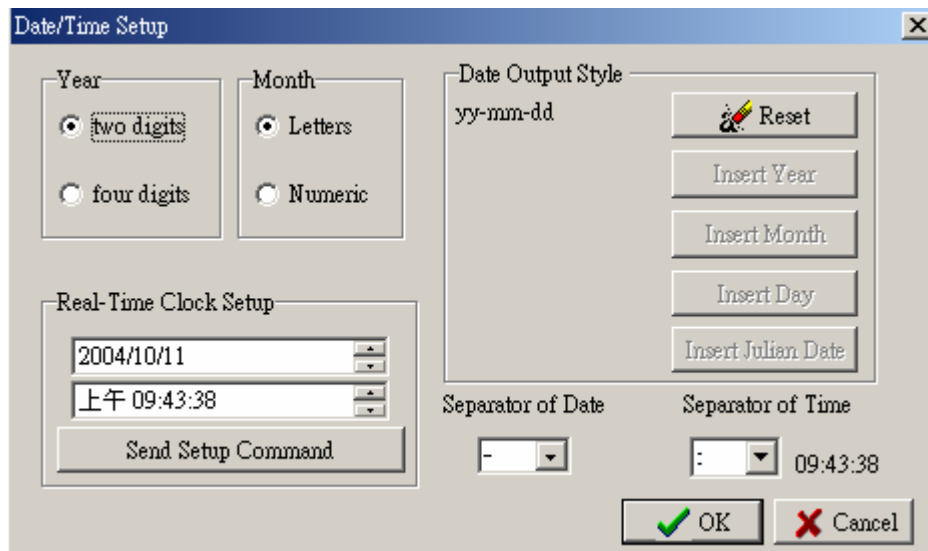

Fig.15.1
1. On the Advance menu, click Printer Date/Time Setup. (refer to the Fig.15.1)